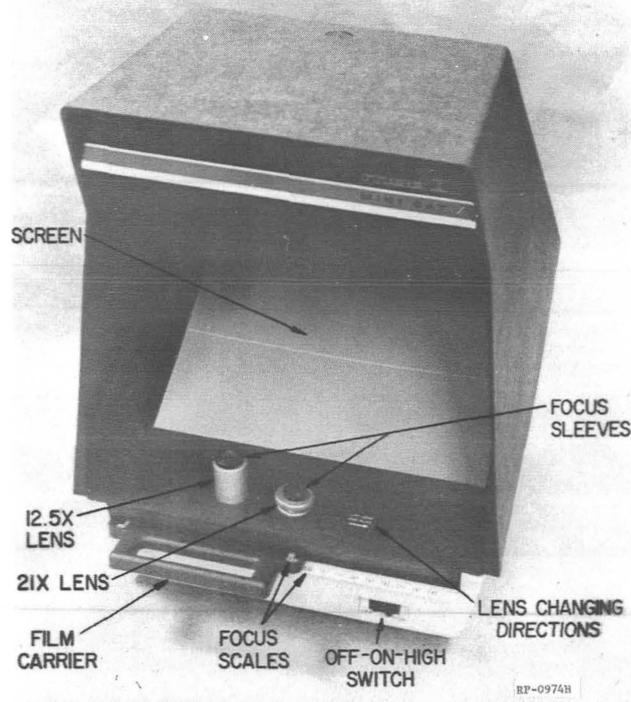

FIG. 15: R-4680 DUAL LENS LARGE MICROFILM VIEWER
9.1 Operating Features of the R-4680 Viewer - The operating features of the R-4680 Viewer are shown in FIG. 15 and are described below:
- 4) Paragraph 9 on the use of the R-4680 Viewer added. Figures 15 and 16 added to show this viewer.